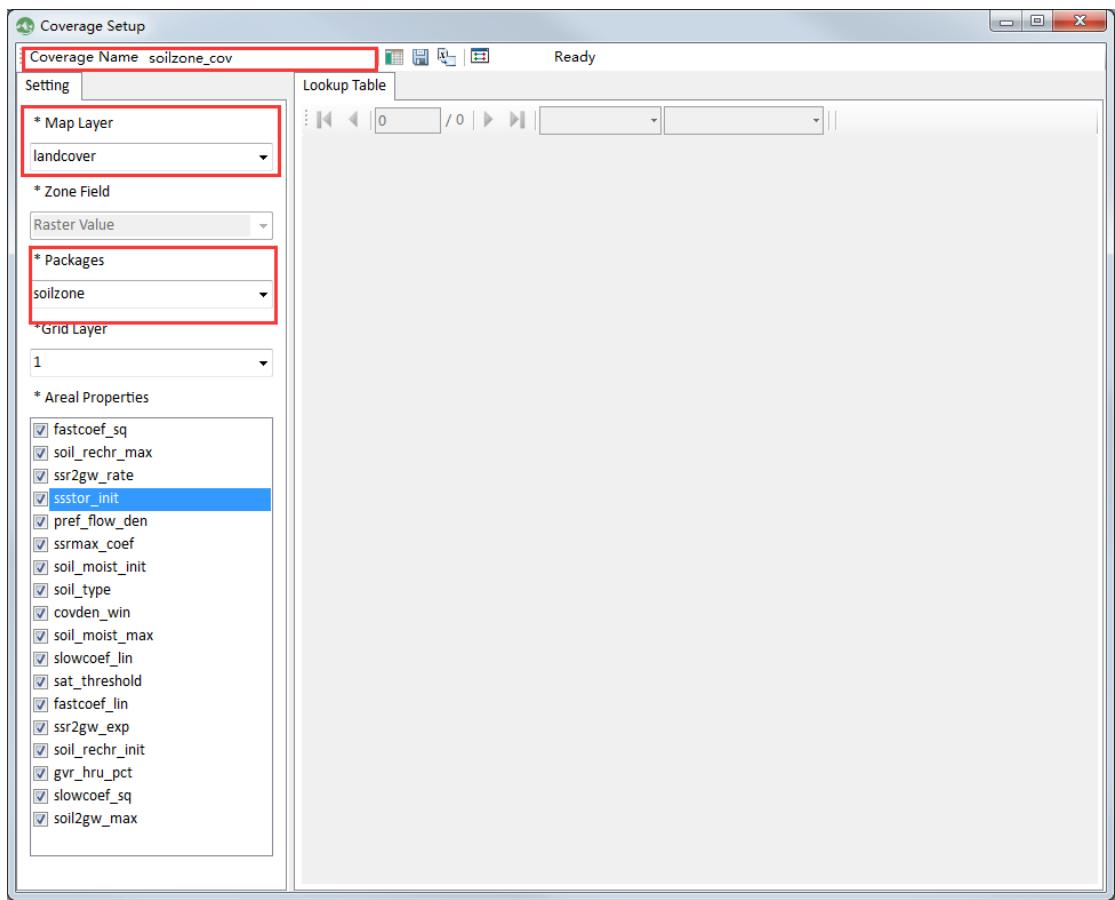

Figure 5-5. Create New Coverage for the soilzone package
- 3) In the prompted window entitled “Coverage Setup”, input “soilzone_cov” in the textbox named Coverage Name, select “soil_type” from the Map Layer dropdown list, and select soilzone from the Packages dropdown list (Figure 5-5). Then all the parameters belonging to soilzone package will be displayed in the checklist that bellows the Areal Properties:
The screenshot shows the 'Coverage Setup' dialog box with the same settings as Figure 5-5. The 'Lookup Table' tab is now active, displaying a data table titled 'Create lookup table'. The table has columns for ID, fastcoef_sq, soil_rechr_max, ssr2gw_rate, ssstor_init, pref_flow_den, ssrmax_coef, soil_moist_init, and soil. The data table contains 15 rows of data, with the 15th row highlighted in green. The first few rows of data are as follows: